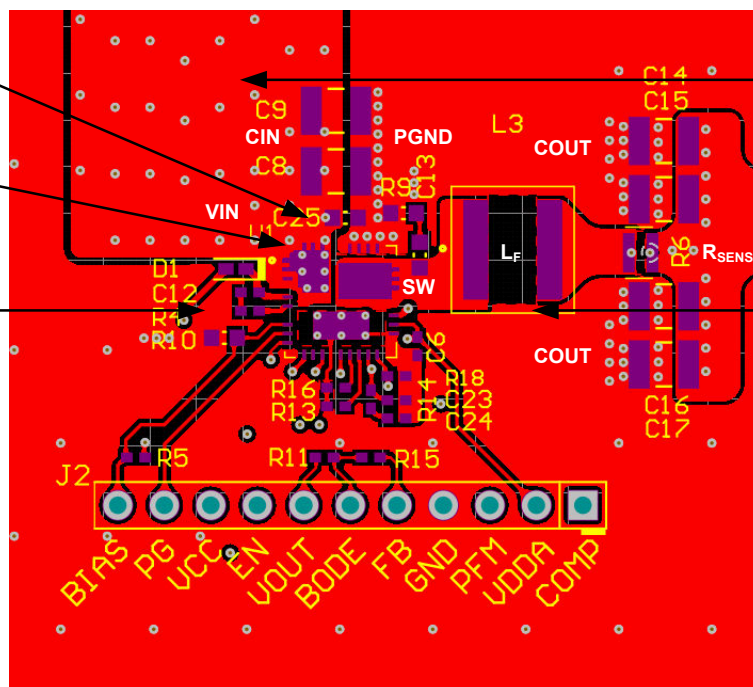

Figure 7-29. PCB Top Layer – High Density, Single-sided Design
The following list summarizes the essential guidelines for PCB layout and component placement to optimize DC/DC converter performance, including thermals and EMI signature. Figure 7-29 shows a recommended layout of the LM708x0 with optimized placement and routing of the power-stage and small-signal components.
- Use low-ESR ceramic capacitors with X7R or X7S dielectric from VIN to PGND. Place an 0402 capacitor close to VIN for high-frequency bypass as shown in Figure 7-29. Use additional 1206 or 1210 capacitors for bulk capacitance.